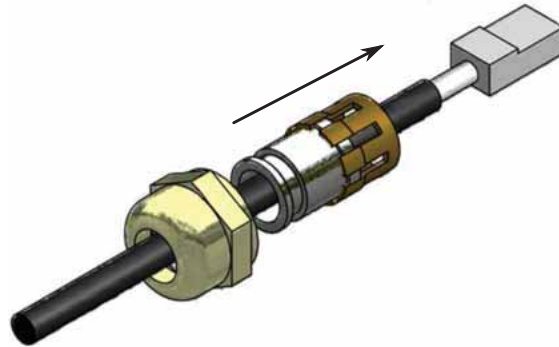

Figure 4.15. Assembly of Connector Components
9. Refer to Figure 4.15, “Assembly of Connector Components”.